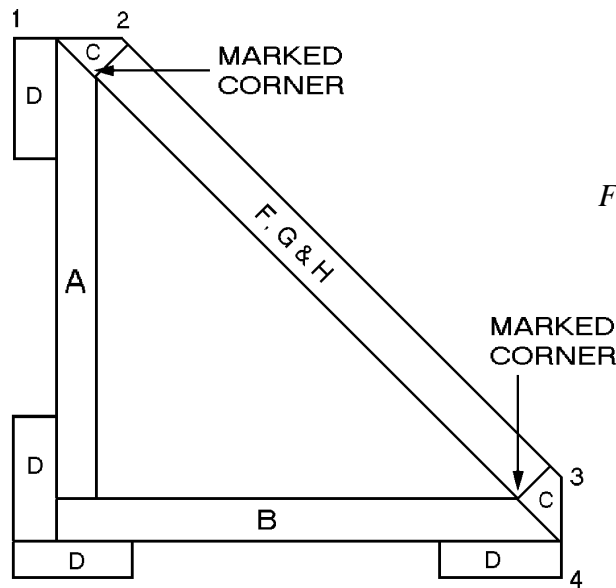

Figure 5
6. Turn the trim pieces (C) so that the marked corner and the narrow edge of the trim (C) are in the positions shown in *Figure 5*. Reattach them to the cupboard backs (A and B) using glue and finishing nails along the entire length. Space the nails approximately 6 inches apart.
1. Cut four back support pieces (D), each 79 inches long from 1 x 4 pine.
2. Attach two back support pieces (D), to the center back of the assembled cupboard, overlapping them as shown in *Figure 5*. Glue and screw the supports (D) to the backs (A and B) using 1-1/4"-long screws placed about every 6 inches.
3. Attach the remaining two back support pieces (D) to the outer edges of the cupboard backs (A and B), flush with the reattached trim (C). Glue and screw them to the cupboard backs using 1-1/4"-long screws spaced approximately 6 inches apart.
1. Cut three middle shelf trim pieces (F) from 1 x 2 pine, each 11-1/4 inches long. Attach them to the front of the three middle shelves with glue and finishing nails, using about 3 nails per shelf. Make sure that the top of each shelf trim piece (F) is flush with the top of the shelf, as shown in *Figure 5*.
2. Cut one 11-1/4"-long top shelf trim piece (G) from 1 x 4 pine. Attach it to the front of the top two shelves with glue and finishing nails, putting three nails into each shelf.
3. Rip a 1-foot length of 1 x 6 to a width of 5 inches. Using the resulting 5-inch width, cut one 11-1/4"-long bottom shelf trim piece (H).
4. Attach the bottom shelf trim piece (H) between the two bottom shelves (E) using glue and finishing nails. Using three nails across the top and three across the bottom.
1. Measure the exact dimensions, as indicated in *Figure 5*, from (1) to (2), from (3) to (4) on